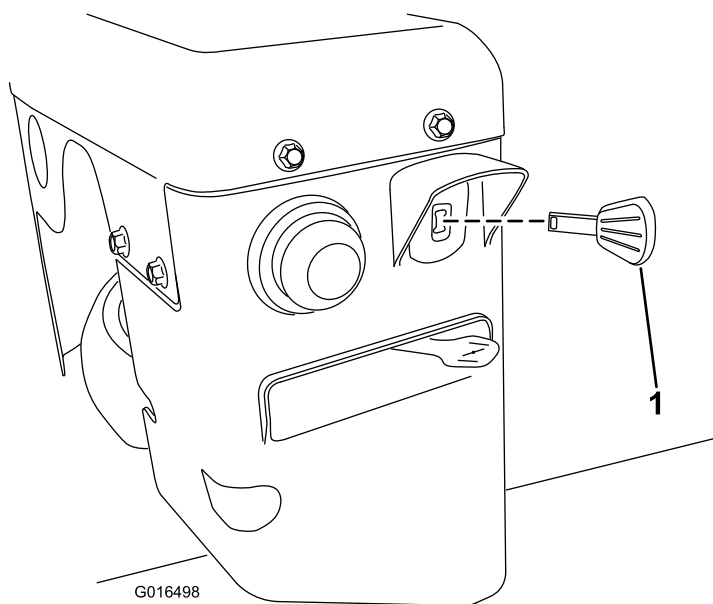

Figure 21
3. Fully insert the ignition key (Figure 21).